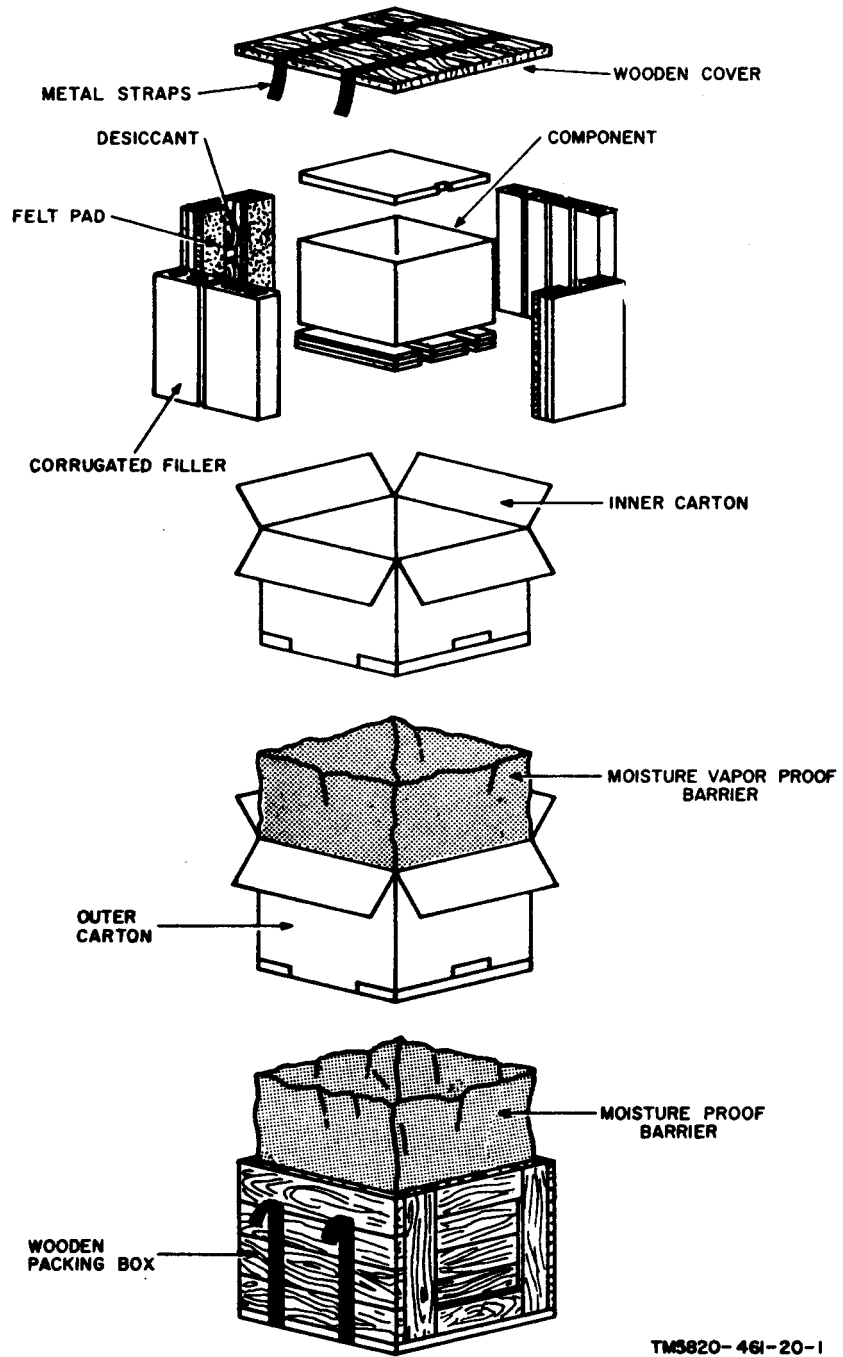

Figure 2-1. Typical packaging diagram.
a. Packaging Data. When packed for shipment, the components of the radio set are placed in cartons and packed in wooden boxes. A typical packing case and its contents are shown in figure 2-1. The packaging data for the AN/GRC-50(V)1 is listed below. The other models are packed similarly. Refer to appendix B for list of items contained in other configurations of the radio set.